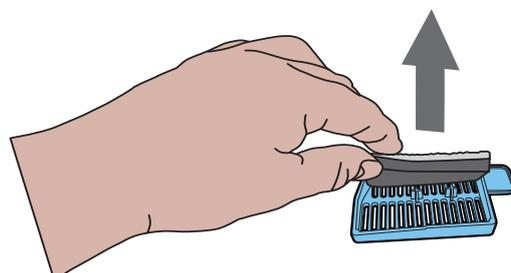

Fig.18
7. Replace the filter combination making sure that the coarse black filter is in contact with the plastic holder. (See Fig.18)